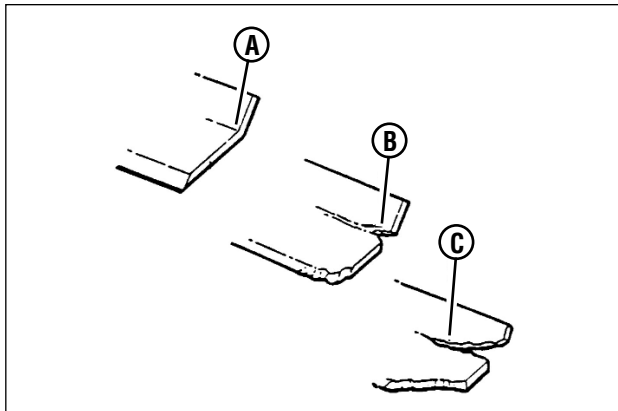

Figure 20: Standard blade wear limits
1. Inspect the blade (**Figure 20**) frequently for signs of excessive wear or damage:
- (A) New blade
- (B) Wear limit (notch starts)
- (C) Dangerous condition! Do not use on the mower! Replace with a new blade.